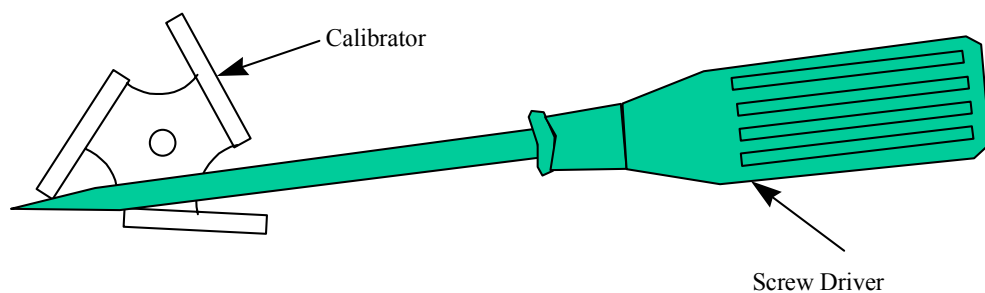

Figure 4-b
7. If the weight indication is over the applied load turn the calibrators within the spring so the calibrators move toward the top of the scale. Use a screwdriver as shown in Figure 4-b. If the weight indication is low, turn the calibrators the opposite way.